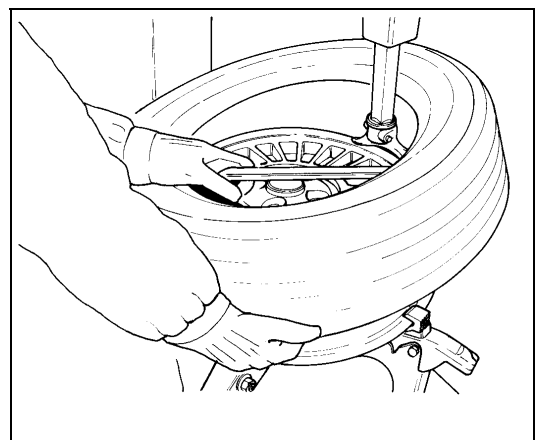

Fig.21
H. Repeat the process for removing the lower bead. This time, lift the bead opposite to the mount/demount head to keep it in the drop center (Fig.21). Move the swing arm aside and remove the tire.